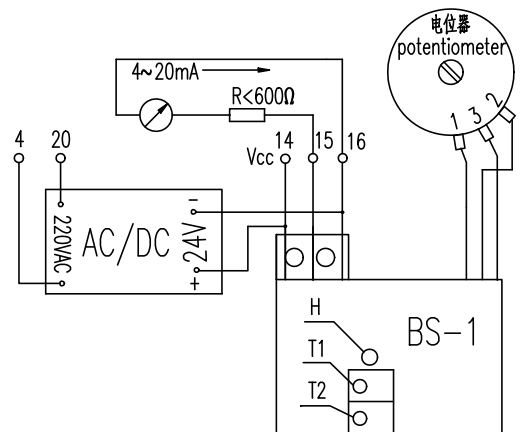

图 8 阀位变送器 Fig.8 transmitter
2. 阀位变送器 BS-1 的调整，见图 8。阀位变送器的取样电位器选用高精度导电塑料电位器 WDD32，其独立线性度 <math><1\%</math>，寿命
For the adjustment of position signal transmitter, refer to Fig.8 WDD32 sampling potentiometer of position transmitter is electric conductive plastic potentiometer of high precision. (independent linearity <math><1\%</math>, service life: